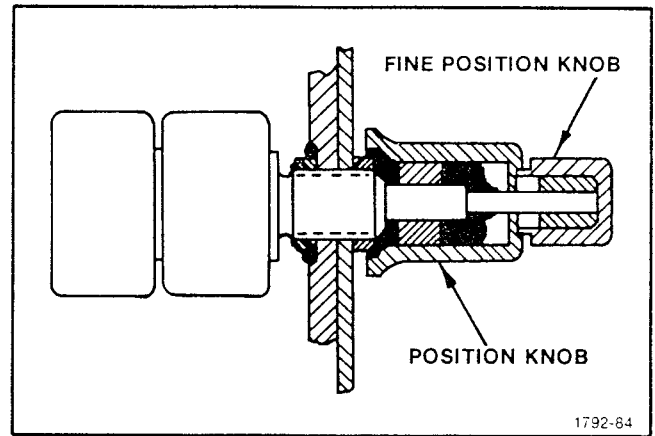

Fig. 5-31. POSITION Control Knob Installation
- b. Install POSITION and FINE knobs per Figure 5-31.